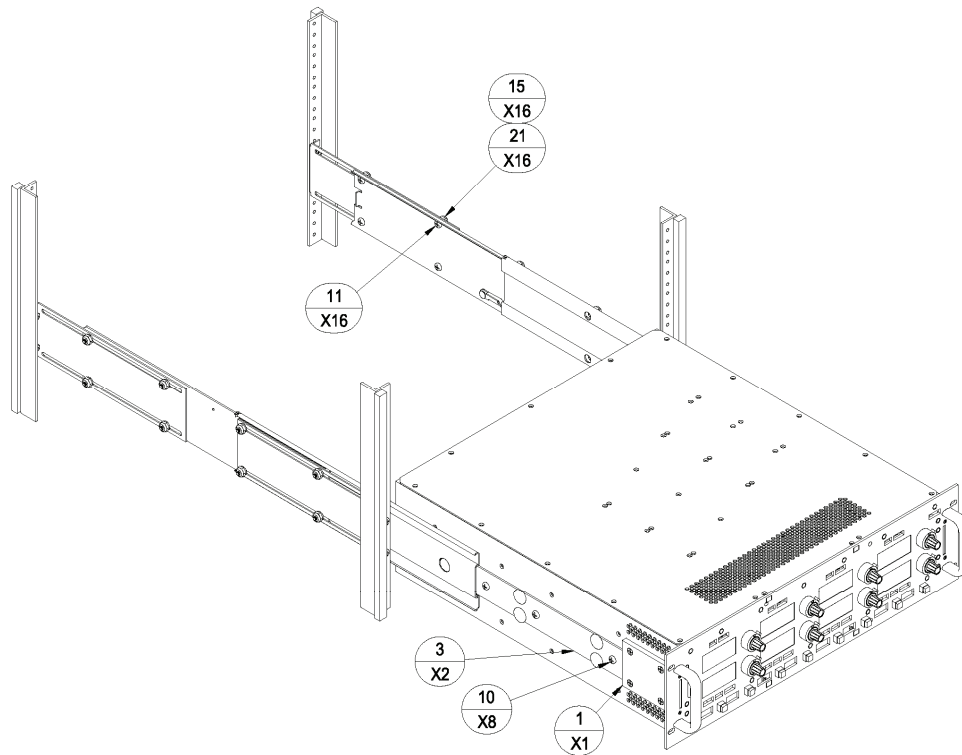

Figure 1
Each slide kit contains 1 pair of slides for the left and right side of the chassis. The slides are symmetrical and individual components can be used interchangeably. Each slide kit consists of four brackets, two slide sections (including two chassis inside sections), and hardware (figures 1, 2 and 3).
- 1) Fully extend each chassis slide assembly, pulling the chassis inside section (item 1) outwards until the chassis and the intermediate sections (item 2) lock into place.
- 3) UltraVolt's **HV Rack** system is equipped with PEM nut-mounting patterns on both sides to mount the rack slides' chassis sections. Mount the chassis inside sections to each side of the **UltraVolt HV Rack** power-supply chassis with four (4) each of the supplied 10-32x1/4 pan-head machine screws (item 10). When doing so, ensure the button stop on the end of the chassis inside section is oriented towards the rear of the system (figure 1).